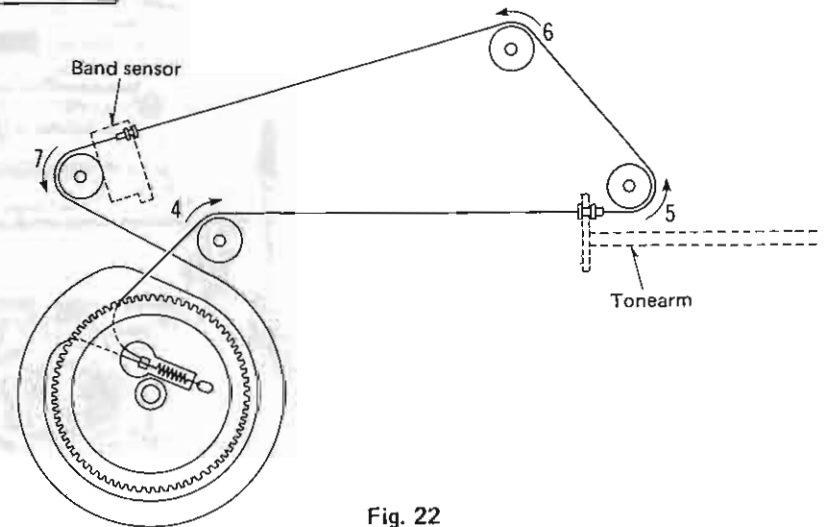

Fig. 22
4. Holding the rope set on the arm drive wheel, set it over the drive wheels (4 ~ 7) in order as shown in Fig. 22.